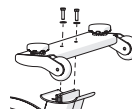

Figure 5
4. Attach the front stabilizer to the frame using two bolts **1** and two flat washers **2** (Figure 5). Using a hex key **6**, tighten to 15.6 ft-lb (21.2 N-m).